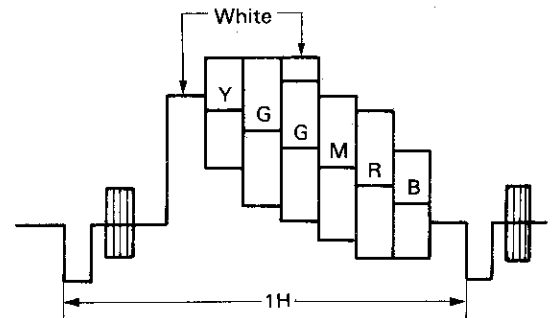

Figure 2-12. Video Output Waveform
11. Connect the oscilloscope to video output, then alternately adjust R2709 (R-Y Carry Balance) and R2710 (B-Y Carry Balance) two or three times until the white noise shown in Fig. 2-12 is minimized.